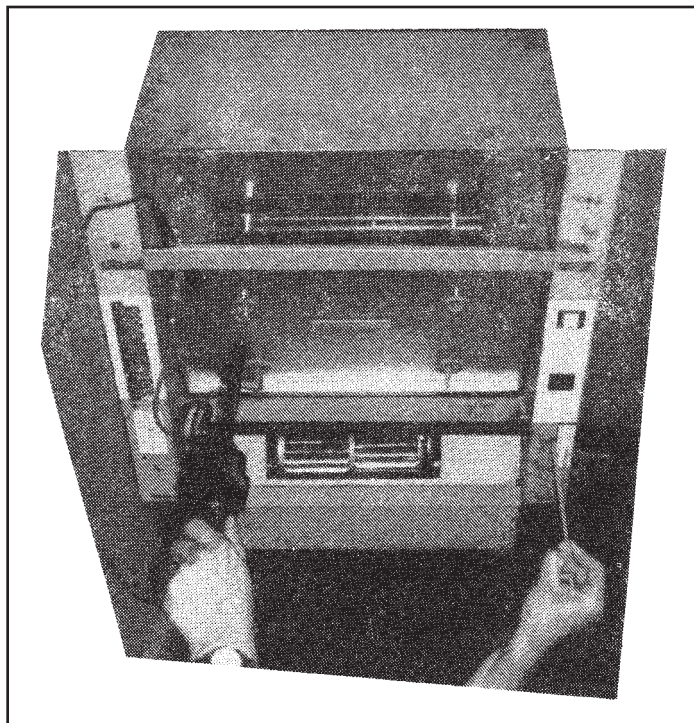

FIGURE 20
3. Engage the safety interlock switch and measure the ionizer output voltage by placing the probe's tip on the #8 high voltage plug-in connector. (Refer to Figure 20)